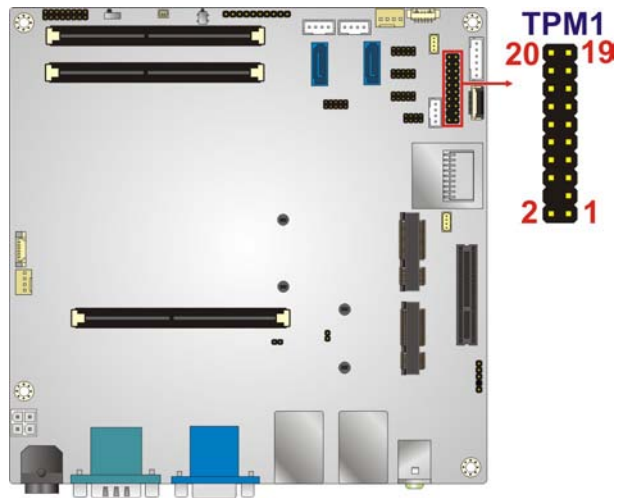

Figure 3-25: TPM Connector Location
- CN Location: See **Figure 3-25**